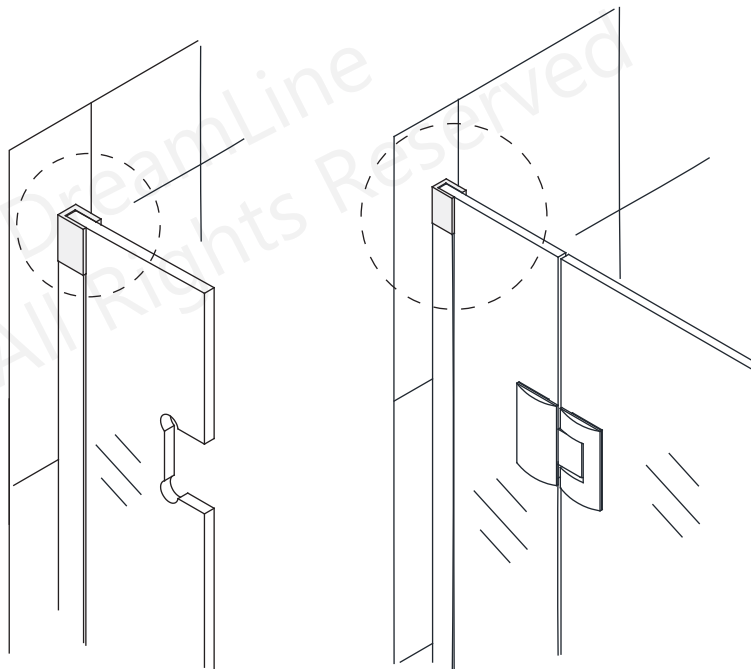

**Fig 9**
**9.** Tighten the rubber-tipped set screws on the **Hinge Panel Glass Bracket (#36)** to secure the hinge panel glass. **(Fig 9)**
**NOTE:** Following the installation of the Hinge Panel Glass (#32), it is required to allow the silicone to fully cure before hanging the door glass. **(Fig 9)**